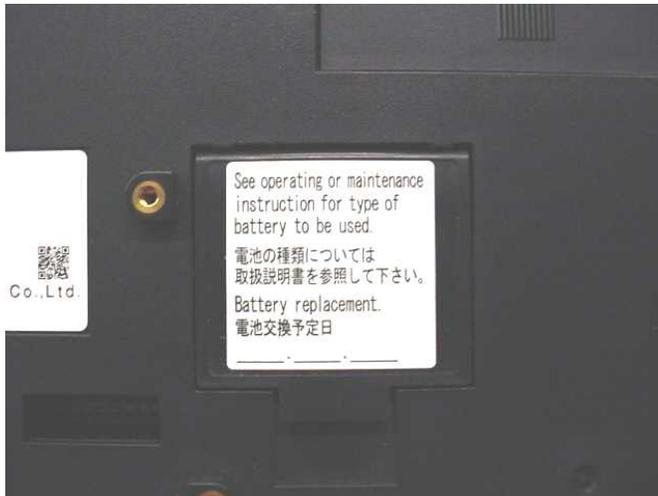

Figure 13.1
4. Locate battery access door (Fig. 13.1).